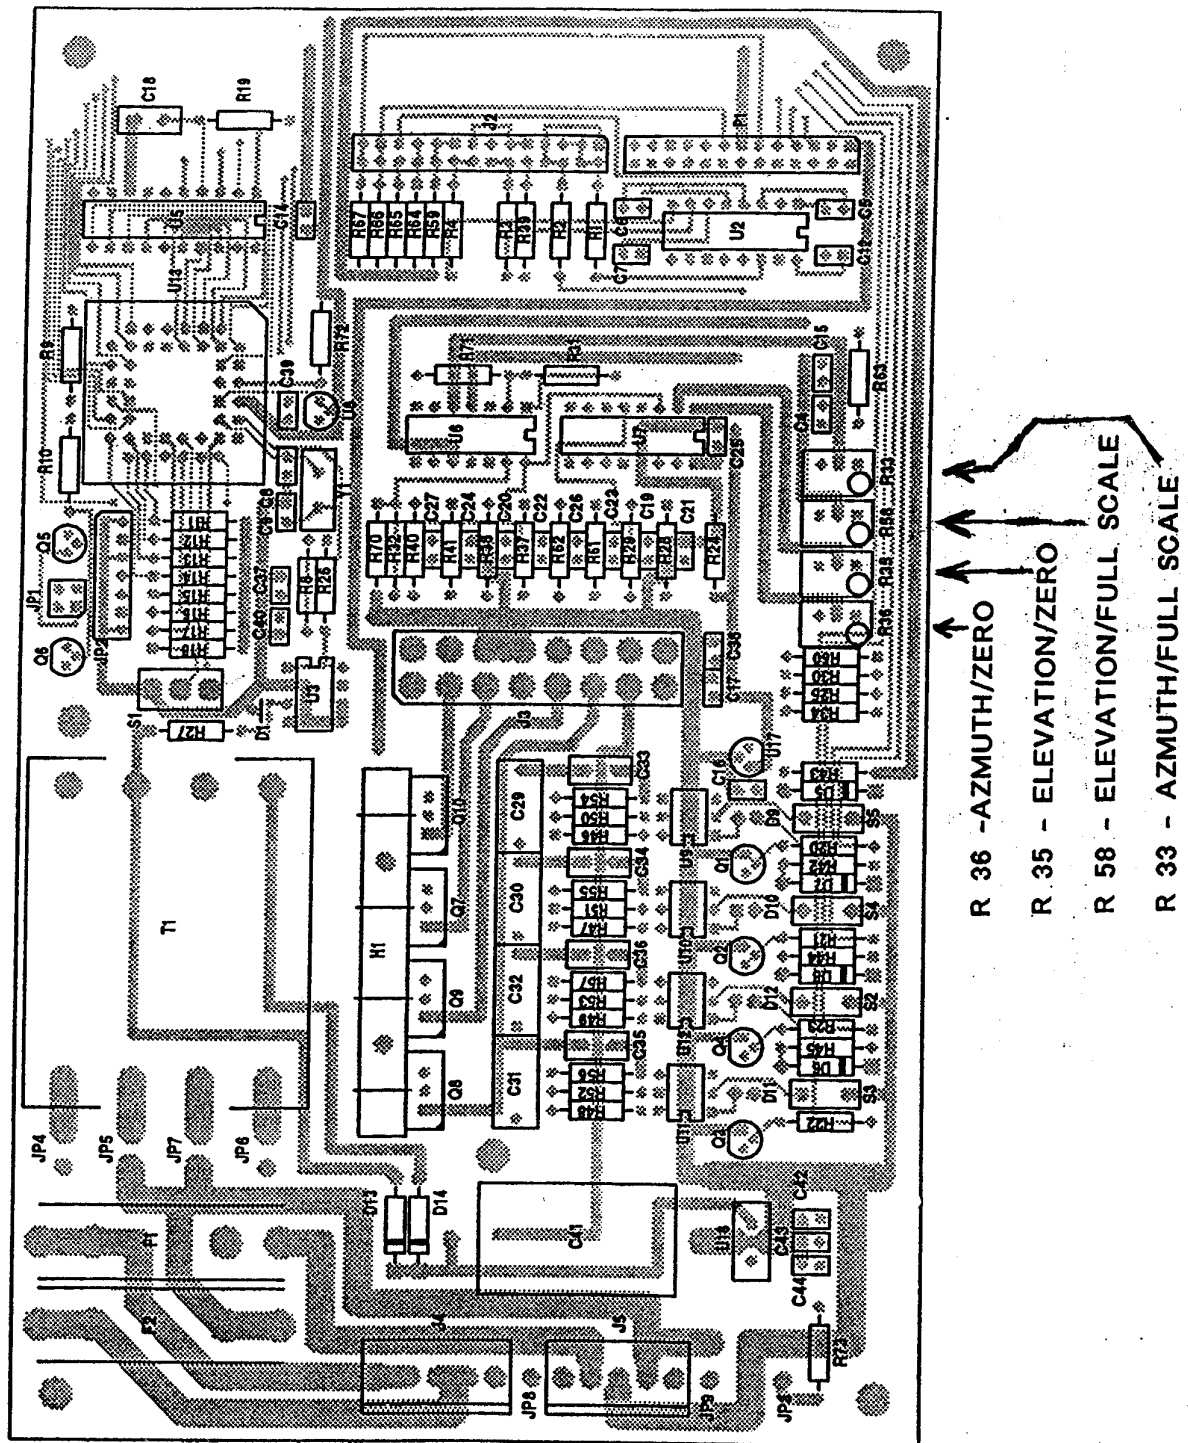

Figure B-1, Controller Chassis - Back Panel
- (A) The **AUTOMATIC/MANUAL** switch on the controller must be in the **MANUAL** position (Red LED flashing). Move the antenna to 0° Elevation with the **UP/DOWN** Switch, then check the actual elevation with a long level placed vertically between the top and bottom edges of the dish antenna. Move the **UP/DOWN** switch to position the antenna at 0° elevation. Check the computer screen for indicated elevation. If it is not $0.0 \pm 0.5^\circ$, adjust the **elevation zero adjustment** on the back panel of the controller chassis. (please refer to Figure B-1, Controller Chassis - Back Panel.)
- (B) Move the antenna to 180° elevation with the **UP/DOWN** switch. Then check the actual elevation with the long level held vertically. With the dish positioned at 180°, check the computer screen for indicated elevation. If it is not $180.0 \pm 0.5^\circ$, adjust the **elevation full scale** adjustment on the back panel of the controller chassis. (Please refer to Figure B-1, Controller Chassis - Back panel.)
- (C) Recheck the 0° elevation and 180° elevation positions, then check the 90° elevation position using the long level. If all indications are $\pm 1^\circ$ or less, go to the next step.
- (A) With the **AUTOMATIC/MANUAL** switch set for **AUTOMATIC** (the green indicator LED will be on), enter the following commands to the computer:
- (D) Install the supplied pointer on the upper calibration plate, then physically adjust the pointer to align exactly with the (E) mark on the large lower calibration plate and tighten securely in position. It may be necessary to bend the pointer slightly in order to align the pointer exactly with the (E) (Equator) alignment mark on the calibration plate.
- (E) Enter the command **PA 90 <ENTER>**, then enter the command **PB 170 <ENTER>**. (Be sure to put in the space between the [A] and the [9]; and the [B] and the [1]). Move the **AUTOMATIC/MANUAL** switch to **AUTOMATIC**. After the positioner has stopped moving, turn the **AUTOMATIC/MANUAL** switch to **MANUAL** (the red indicator LED will begin to flash). Then move the **CCW/CW** switch until the pointer on the positioner exactly matches the 170° mark ("O" on the calibration plate). The computer screen should now display $170.0^\circ \pm 0.5^\circ$. If adjustment is required, adjust the **Full Scale Azimuth** trimpot on the back panel of the controller chassis until the display indicates $170.0^\circ \pm 0.5^\circ$. (Please refer to Figure B-1 - Controller Chassis - Back Panel.)
- (F) After successful completion of the preceding adjustments, move the **AUTOMATIC/MANUAL** switch to **AUTOMATIC** (the green indicator LED will come on). Enter the following commands: